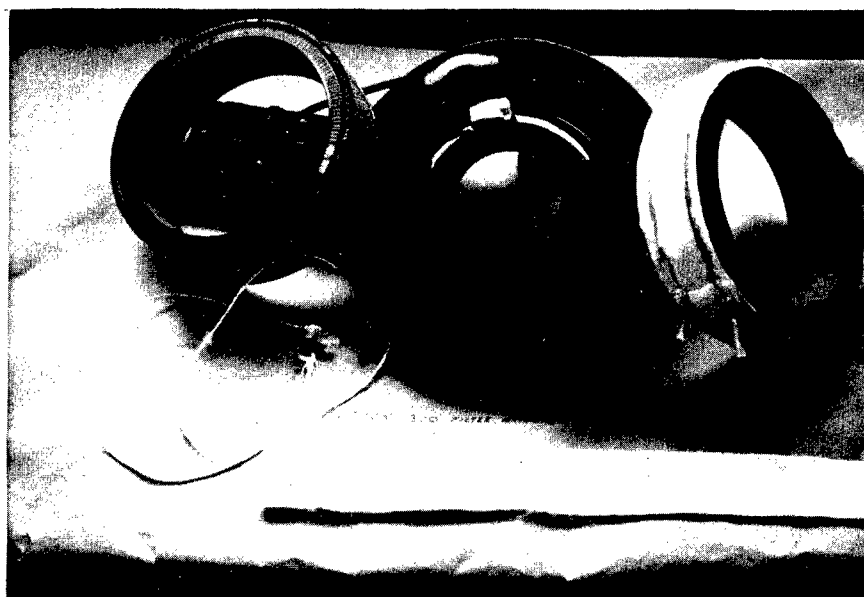

Figure 2
B. Cut three cords from butcher's string (or similar material) to required length (approximately circumference of element). Attach cord ends to a heavy rubber band or small spring, as shown in Fig 2. The elastic cords will be used to provide the necessary tension for holding the media to the element face.
D. Place two prefitted elastic cords (Item B) around material. Insure that the wrap materials fit snug to element and that the elastic cords have adequate tension to hold the materials in place. Place cords approximately 1/2 inch from each edge, Fig 2.